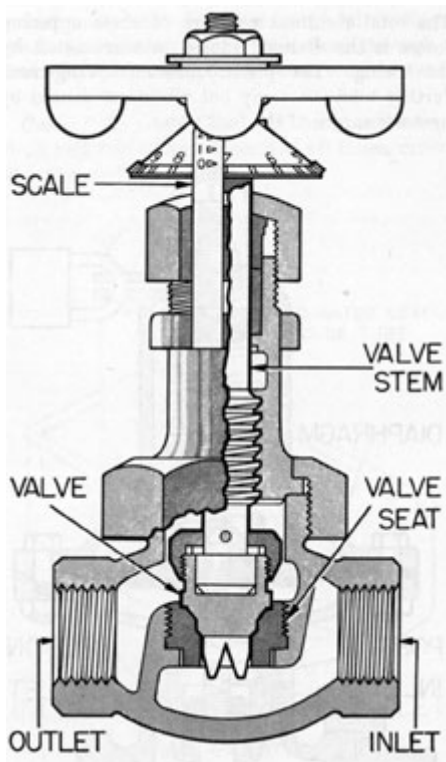

Figure 3-9. Flow control or feed valve.
**3C7. Flow control valve.** A flow control valve (Figure 3-9) is installed in each feed line going to the two units. This valve, sometimes called a feed valve, is a conventional globe valve, installed just after the feed water strainers. A scale alongside the handle stem indicates the number of turns which have been given, and a dial on the